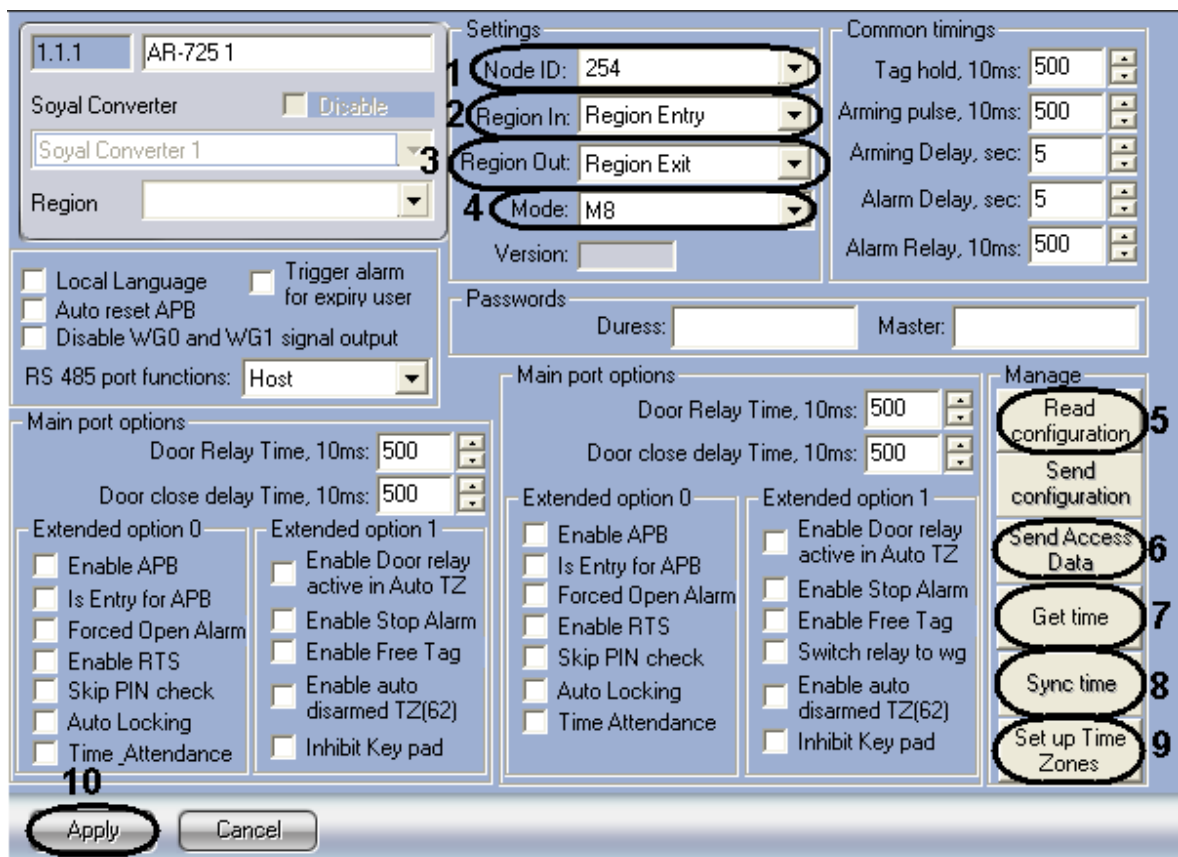

Figure 2.6—2 Setting panel of AR-725 controller
2. From the **Node ID** drop-down list select the ID of *Soyal AR-725* controller (Figure 2.6—2, 1).
3. From the **Region In** drop-down list select the **Area** located in the site of entry through this reader (Figure 2.6—2, 2).